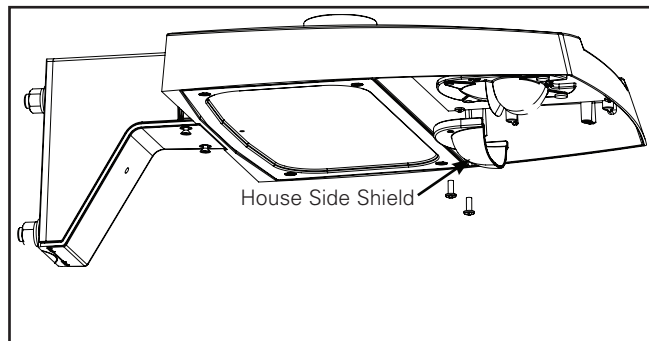

Figure 14.
1. Remove plastic push pins on back side of optic. (Figure 14).
**Note:** House side shield must ONLY be installed on the back side of the optics as shown. DO NOT install on the other side of the optic. (Figure 14)